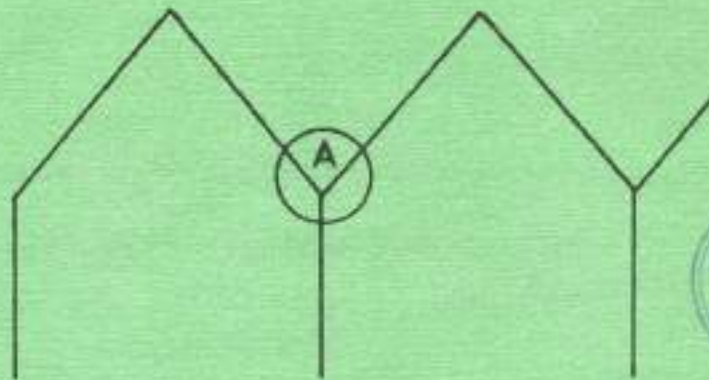

Fig.2
3. (a) **Figure 2** shows a line diagram of a multi-span factory roof. Sketch and label detail A. (3 marks)